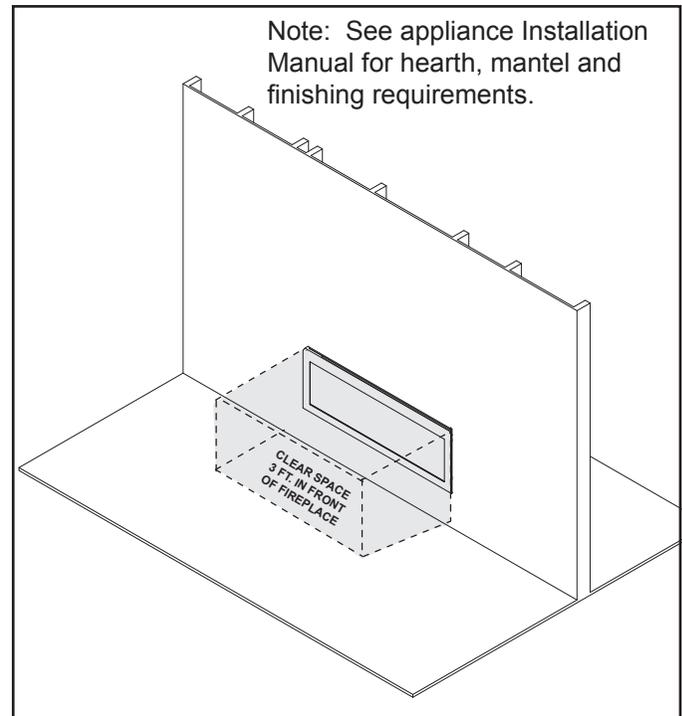

Figure 3.1 Clear Space
**WARNING! DO NOT place combustible objects in front of the fireplace.** High temperatures may start a fire. See Figure 3.1.